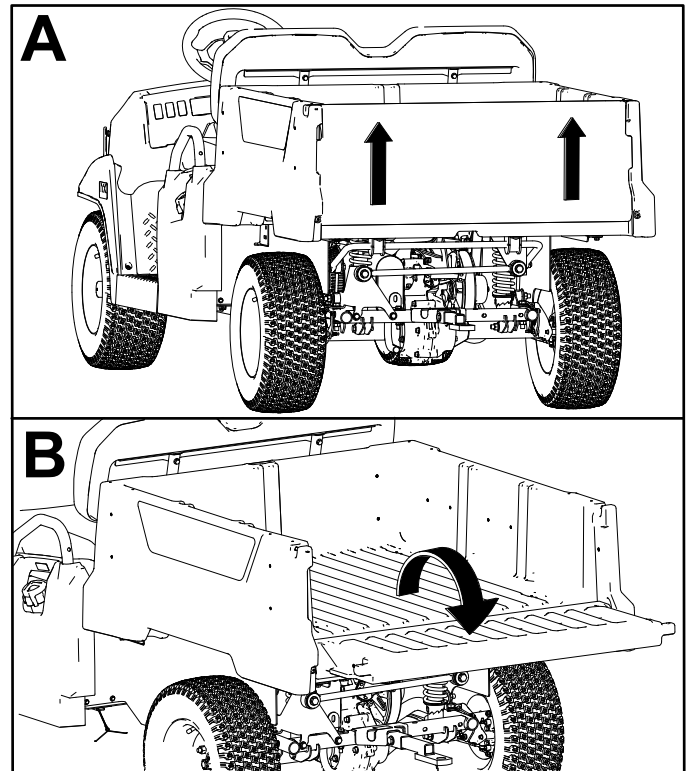

Figure 20
2. Using both hands, raise the tailgate using the ridge near the top of the tailgate (Figure 20).
3. Lower the tailgate until it is flush with the bottom of the cargo bed (Figure 20).